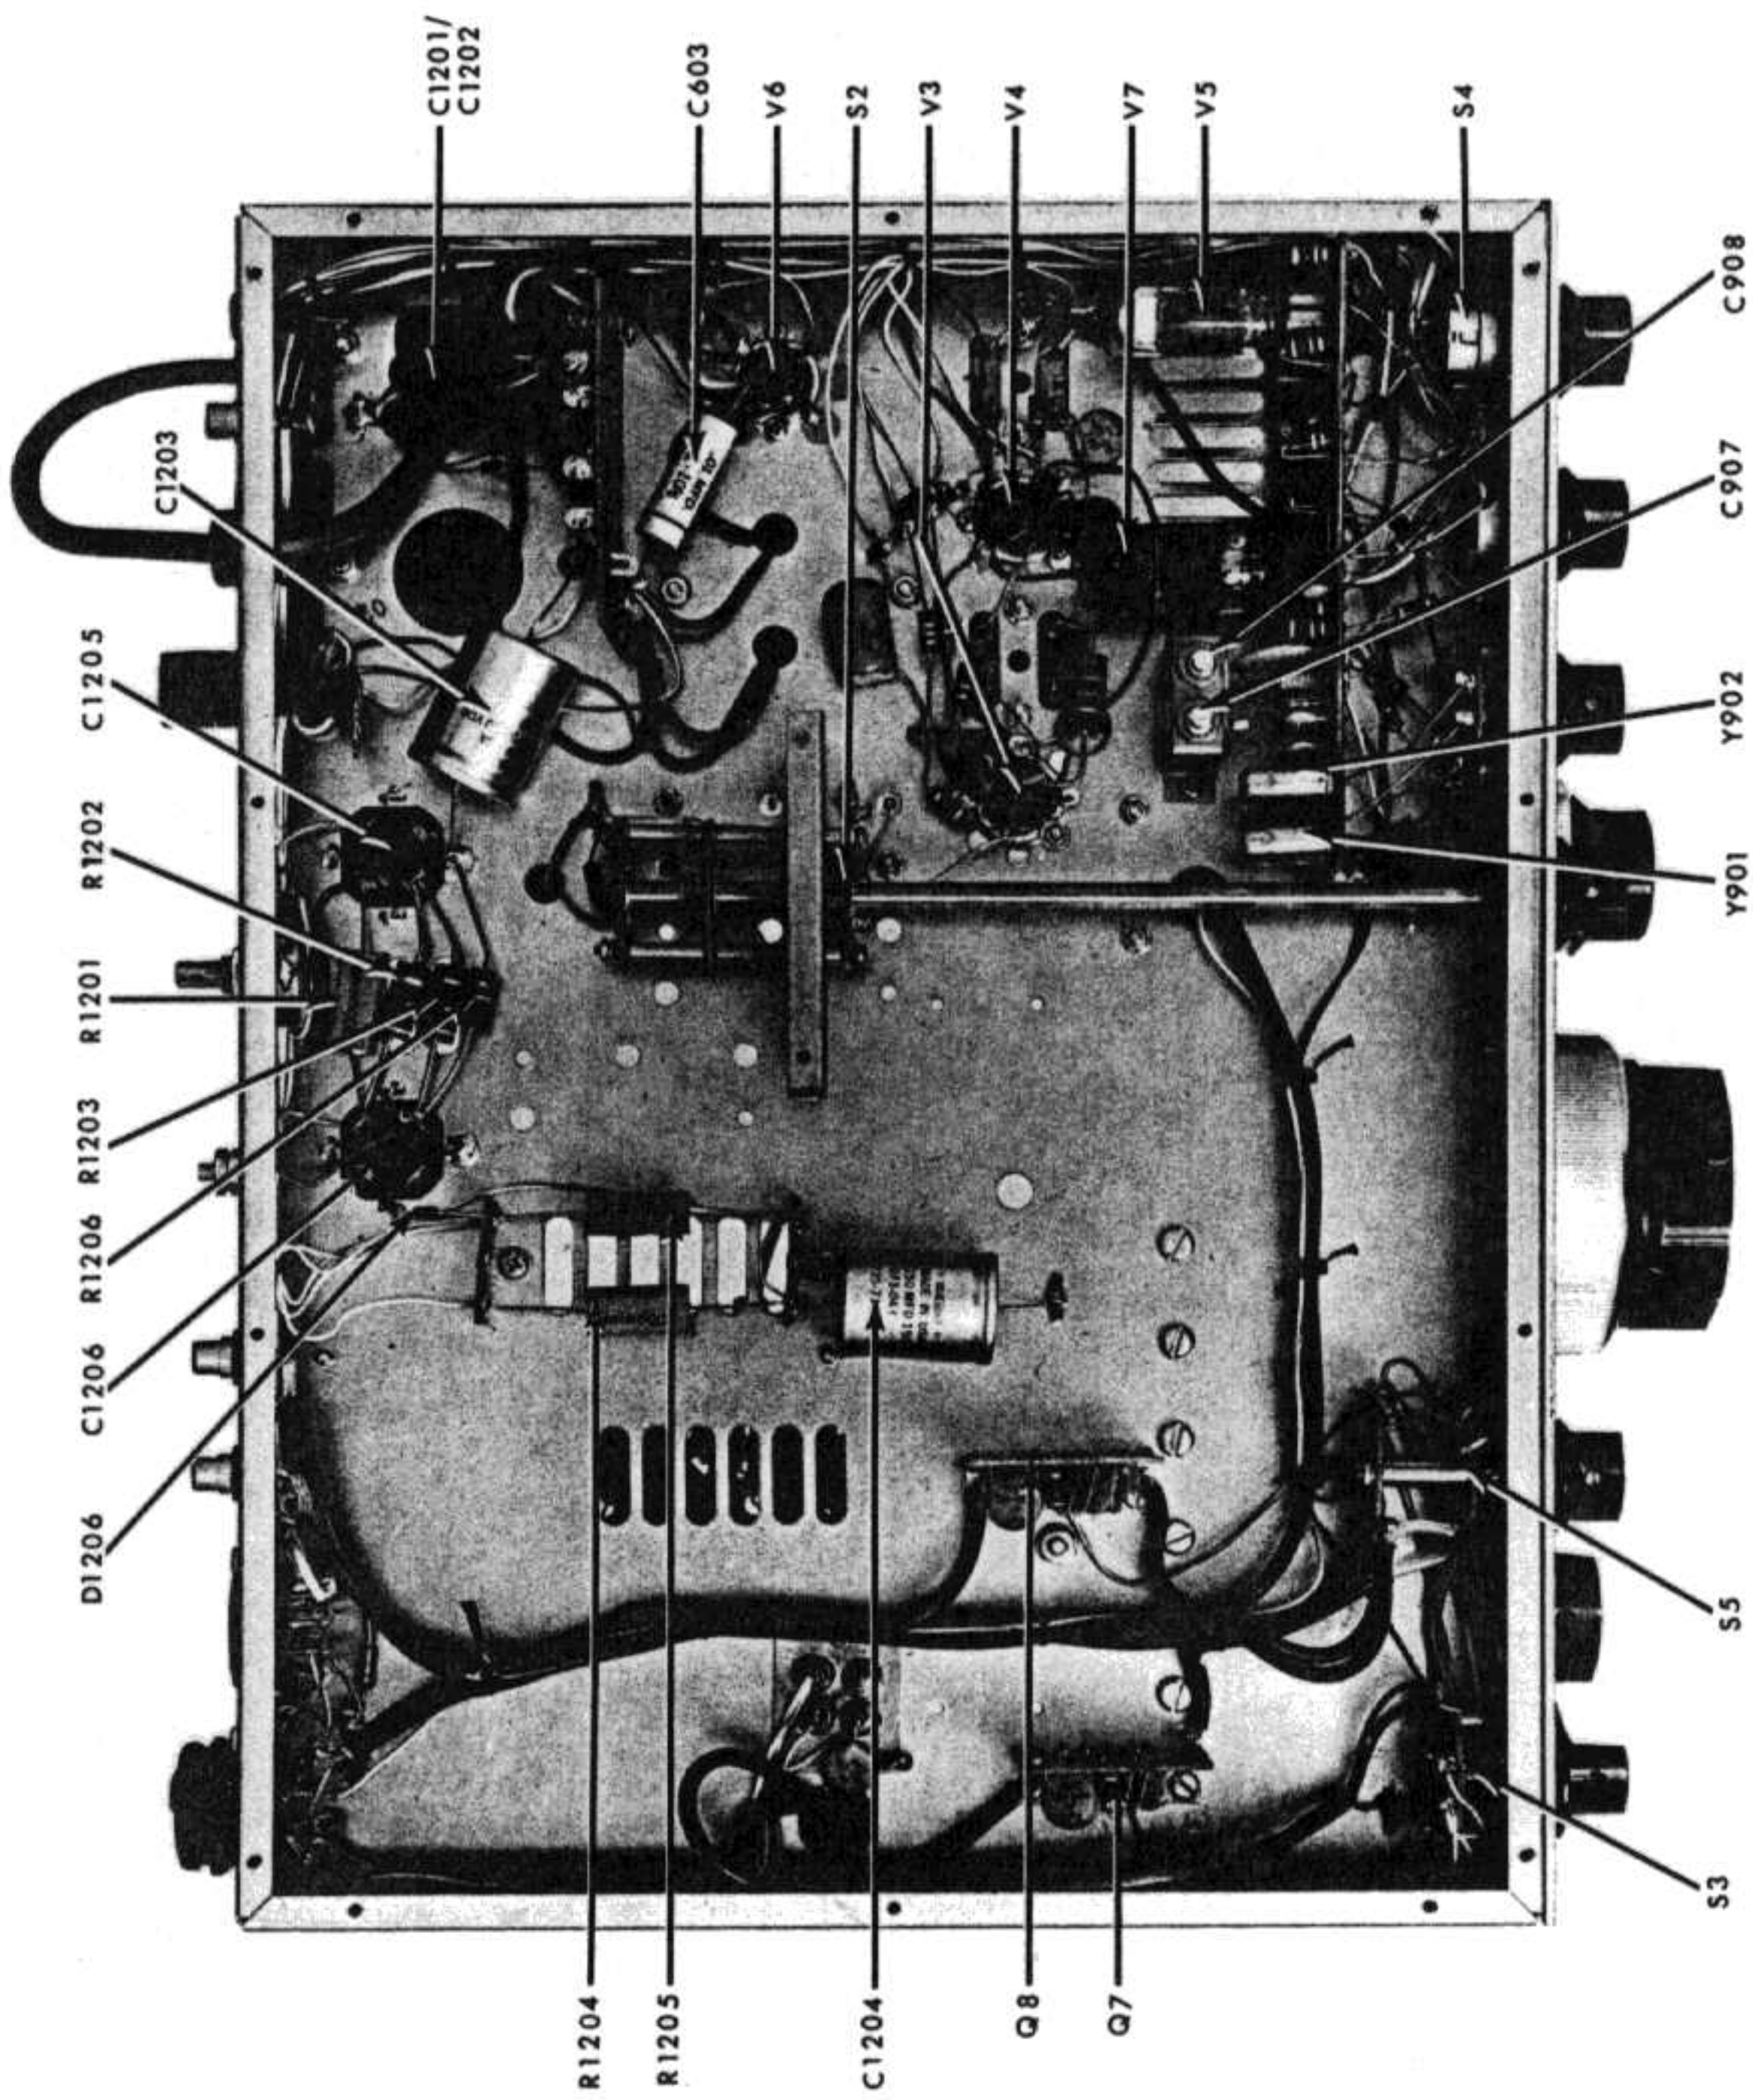

FIGURE 8. BOTTOM VIEW OF 600-R
6. If the 5500 kc BFO oscillator crystal is off frequency, an audible signal will be heard in the speaker of the receiver. Adjust C907 until the BFO is zero-beat with the calibrator (see Figure 8).
7. Since the OPPOSITE BFO crystal is 5503.3 kc, it cannot be adjusted with the 100 kc calibrator. To adjust the OPPOSITE BFO crystal frequency, it is necessary to use either a frequency counter; a 5503.3 kc crystal controlled frequency input; or have a receiver that has been accurately calibrated and can be tuned to exactly 5503.3 kc. Whichever method is used, adjust the receiver 5503.3 kc OPPOSITE BFO crystal frequency using C908 (see figure 8).